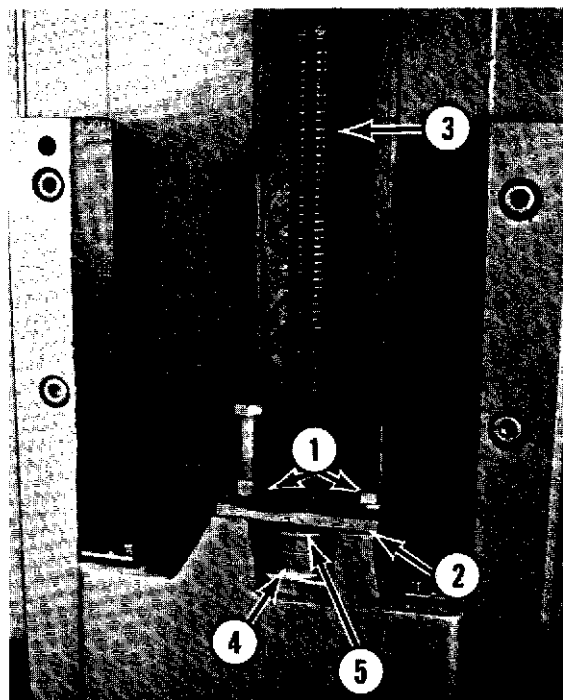
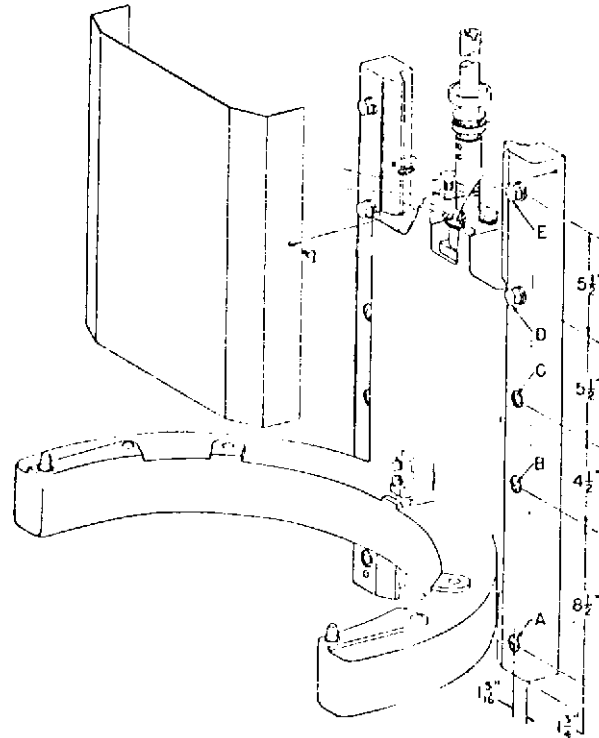

Fig. 12-11
Fig. 12-12
- F. Remove the two bolts (1, Fig. 12-11) in the nut retainer (2, Fig. 12-11).
- G. Remove the bowl lift screw (3, Fig. 12-11), the bowl lift nut (4, Fig. 12-11) and thrust bearing (5, Fig. 12-11).
- (1) Remove the stainless steel apron.
- (2) Break the paint and body putty covering the heads of the three lower screws (A, B, C, Fig. 12-12) (Locate by dimensions given).
- (3) Run the bowl support all the way down and remove the bowl lift nut retainer (1, Fig. 12-11). Then run the nut back up the screw.
- (4) Take out the five screws (A, B, C, D, E, Fig. 12-12) and remove the right-hand slideway. The bowl support will then be clear of the bowl lift screw.
- (1) If a new casting is installed, the fittings such as bowl clamps, locating studs and bowl retainer can be transferred from the discarded casting.
- (2) Clean and lubricate the grooves on the bowl support that fit into the slideways.
- (3) Lift the bowl support in place, with the groove in the left-hand slideway.
- (4) Install the right-hand slideway using bolt at the top (E, Fig. 12-12) and bottom (A, Fig. 12-12).
- (5) Install the remaining bolts, but do not tighten at this time.
- (6) Align the bowl lift nut in the bowl support and install the bowl lift nut retainer (1, Fig. 12-11).